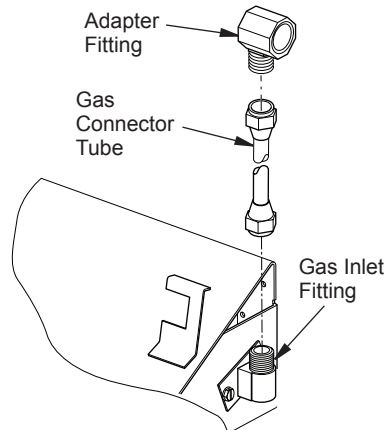

Figure 7 - Connecting Adapter to Gas Supply
3. Install adapter fitting that comes with log set into fireplace gas supply pipe (see Figure 7). Seal using thread sealant.
6. Install provided gas connector tube into the gas inlet fitting (see Figure 7, page 8).